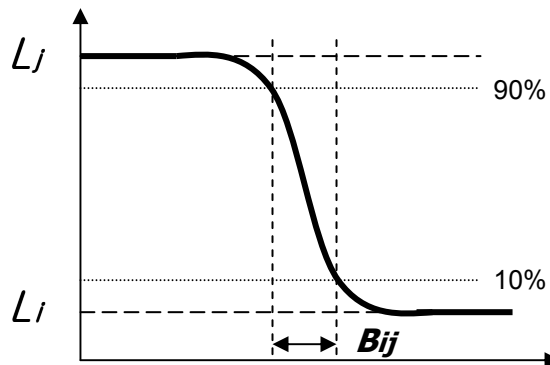

FIG. 3 MPRT
4. MPRT is defined as the 10% to 90% blur-edge width B_{ij} (pixels) and scroll speed U (pixels/frame)at the moving picture. For more information, see FIG 3